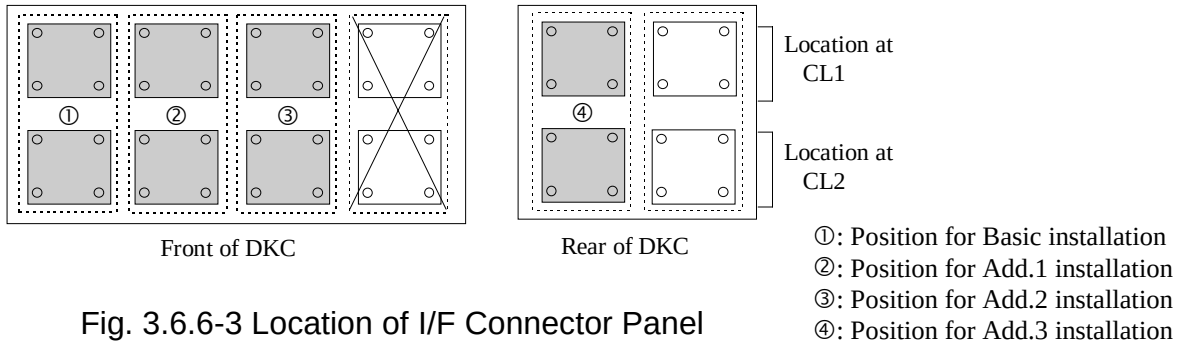

Fig. 3.6.6-3 Location of I/F Connector Panel
- Remove the dummy plate referring to Fig. 3.6.6-5.